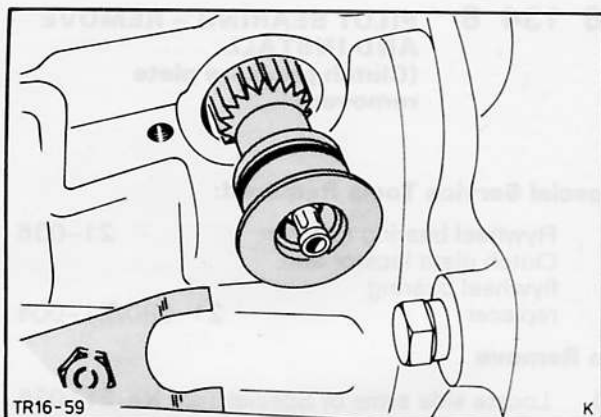

Fig. 99. Fit speedometer drive gear
48. Fit speedometer drive gear with a new O-ring, Fig. 99.